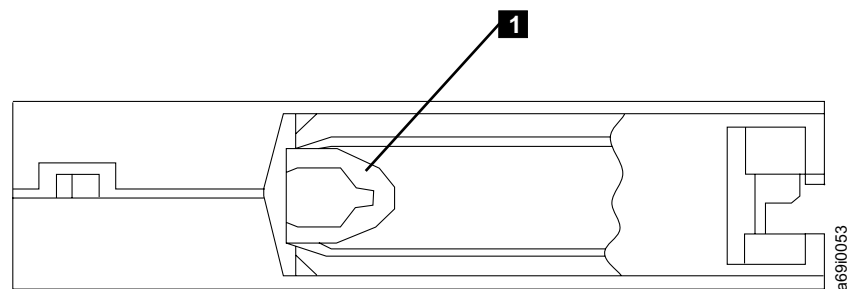

Figure 48. Cartridge Leader in Correct Position
8. Ensure that the tape leader is positioned correctly (see **1** in Figure 48). If the leader is pulled too far into the cartridge, the drive cannot attach to it and pull the tape into the drive. Also, ensure that the tape is wound securely on the cartridge reel and is not loose. Check whether the loop on the leader is damaged; if so, replace the cartridge.